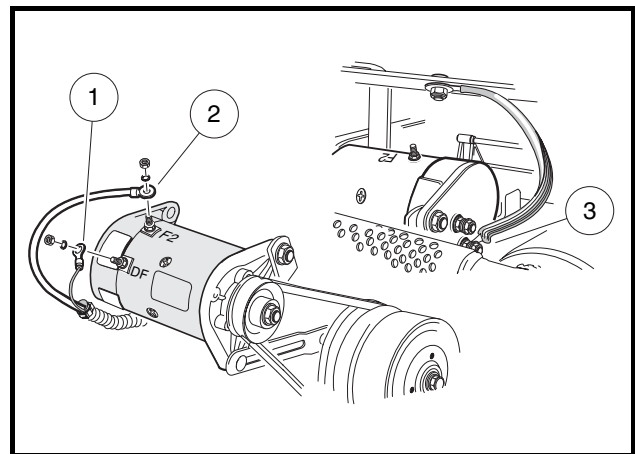

Figure 19-16 Generator Wires
- 4.8. Mark for identification and then disconnect the 6-gauge white wire (F2 post), 6-gauge black ground wire (A2 post), and 16-gauge yellow wire (DF post) from starter/generator (**Figure 19-16, Page 19-8**).